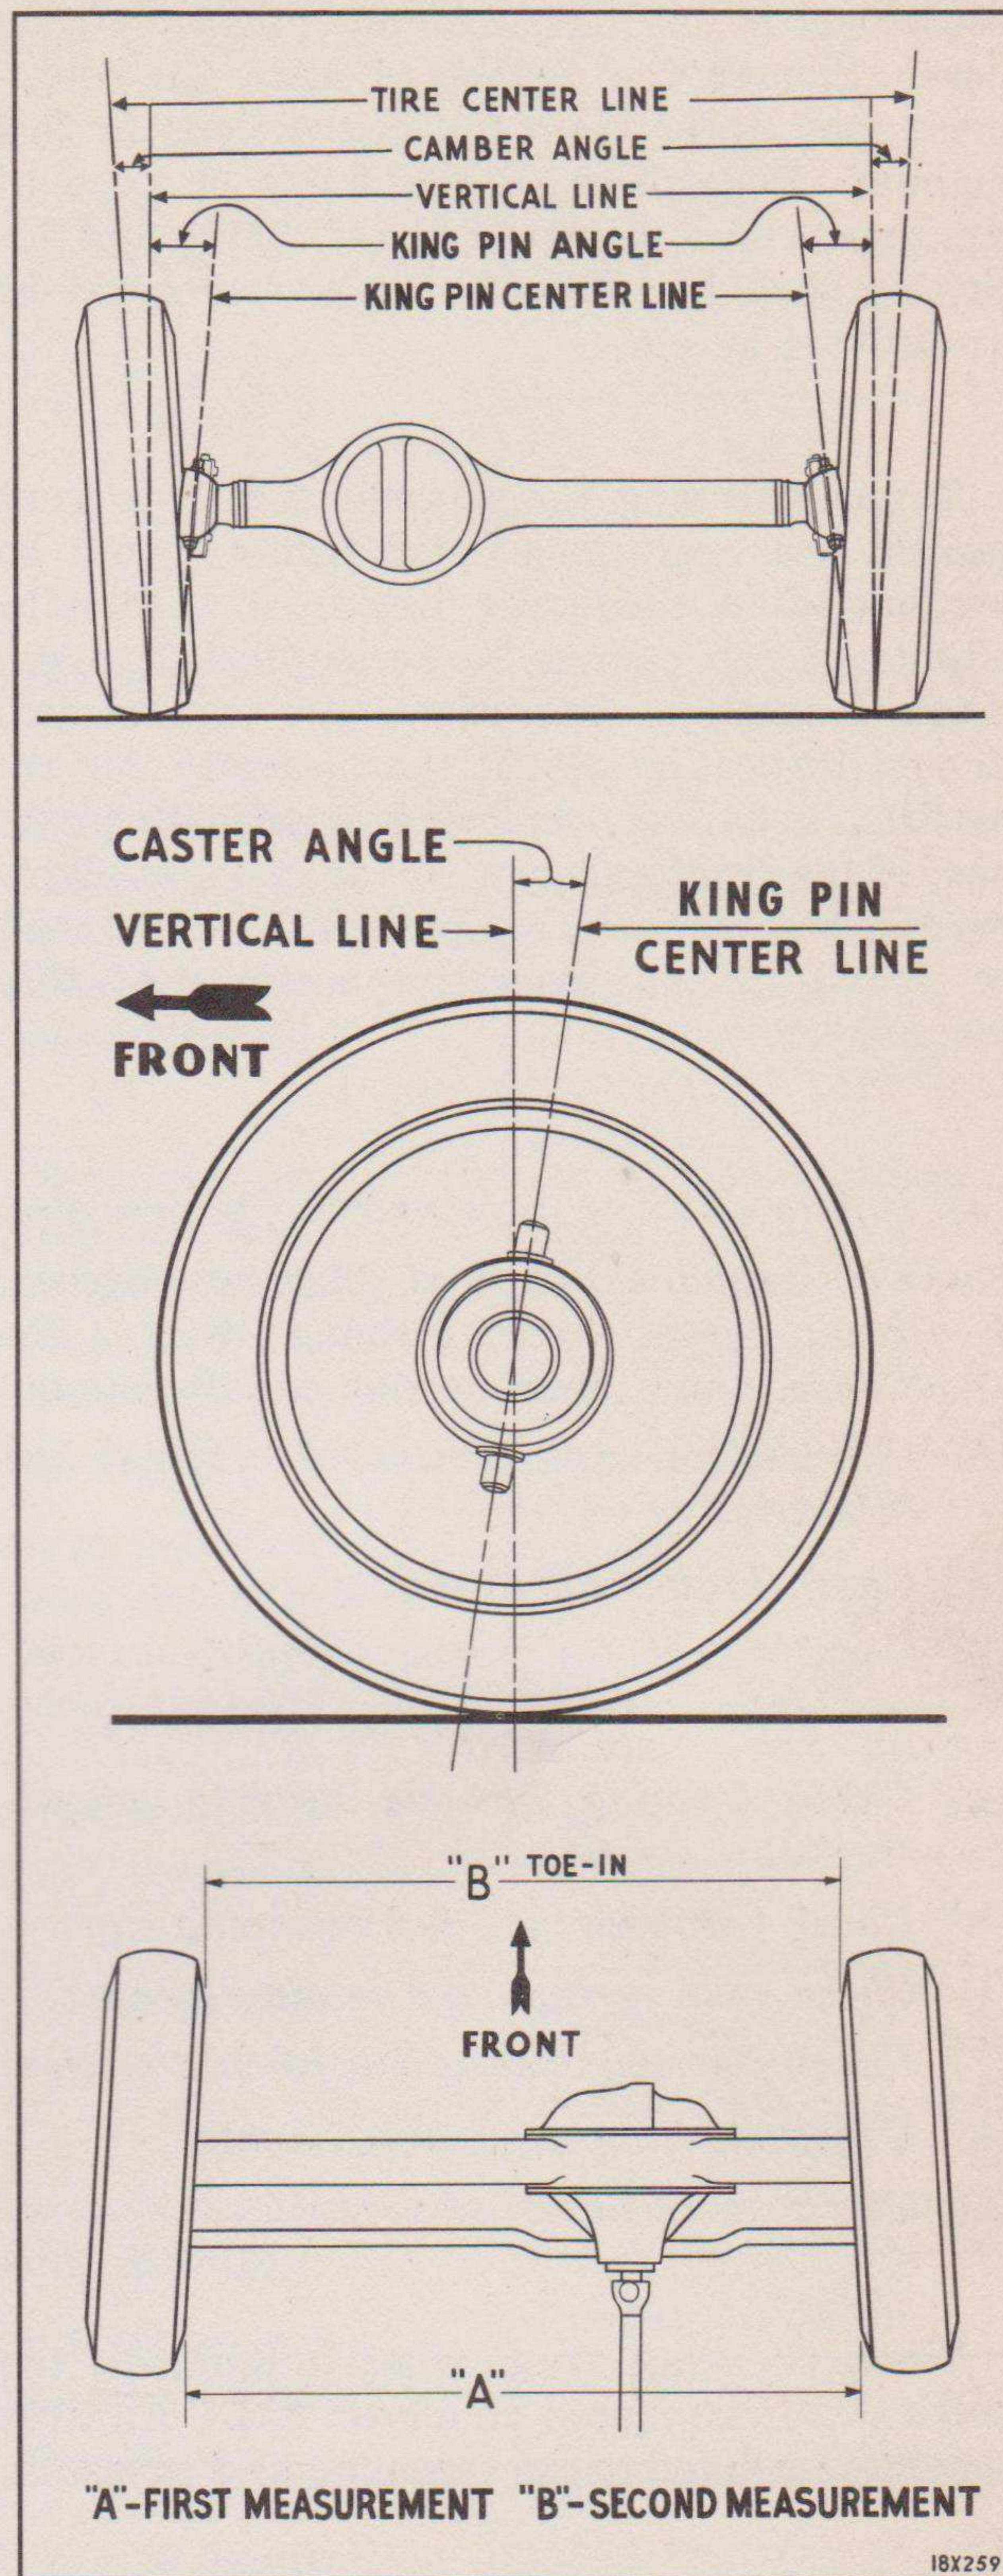

Fig. 39—Front Wheel Alignment Angles
In making corrections to front wheel alignment, or when installing new front axle parts, the angles in both front wheels (See Fig. 39) should be checked as follows:
King pin inclination is the amount the steering knuckle pivot pins incline away from the vertical, toward the center of the truck as viewed from the front of the truck (Fig. 39). Inclined
Camber is the amount the wheel inclines away from the vertical at the top as viewed from the front of the truck. See Fig. 39.
Positive caster (Fig. 39) is the tilting of the pivot pins toward the rear of the truck, while negative or reverse caster is the tilting of the pins toward the front of the truck.
Toe-in is the amount the front wheels are closer together at the front than they are at the back as viewed from the top of the truck. See Fig. 39.
- (c) Actual toe-in measurements should be taken by measuring the distance "A" (Fig. 39) at hub height, between two points on the center of the tread at the *rear* of the tires. Mark this point on the tires, roll the truck ahead so that the markings are in *front* at hub height, and then measure the distance "B" between the same two points on the tire treads. The difference in the two measurements is the actual toe-in or toe-out. If the toe-in is not correct, it should be adjusted as follows: